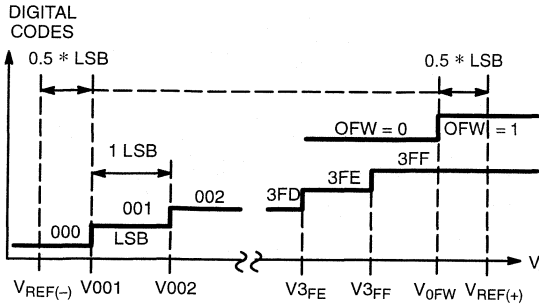
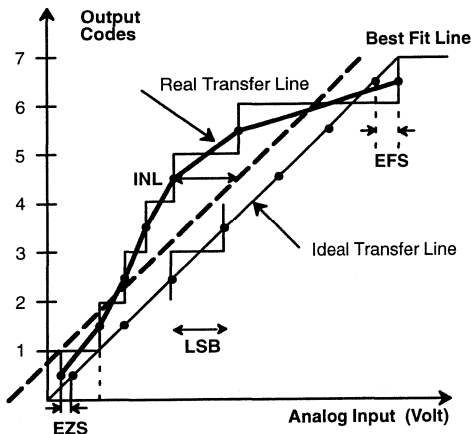

Figure 4. Ideal A/D Transfer Function
Figure 7. INL Error Calculation (Exaggerated for Visualization)
- Tester measures code transition voltages by dithering the voltage of the analog input (V_{IN}). The difference between the measured code width and the ideal value (V_{REF}/1024) is the DNL error (see Figure 4). The INL error is the maximum distance (in LSBs) from the best fit line to any transition voltage (See Figure 7).
The transfer function for an ideal A/D converter is shown in Figure 4.
Figure 7. gives a visual definition of the INL error. The chart shows a 3 bit converter transfer curve with greatly exaggerated DNL errors to show the deviation of the real transfer curve from the ideal one.